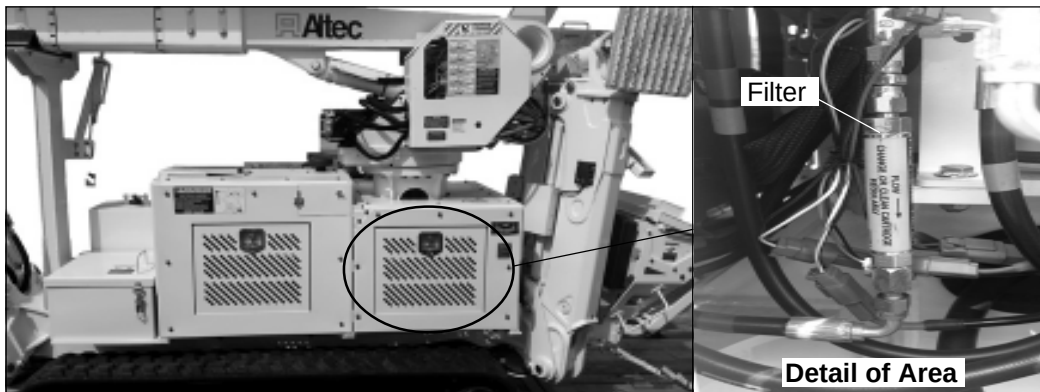

Figure 3 — Filter Location
- A filter has been added to the load sense hose to the pump to protect the pump compensator from contamination. It is located behind the curbside hydraulic access door (refer to Figure 3) to the lower left of the valve. It is an in line filter with a yellow label. If it is not in the hydraulic system at that location, order the Load Sense Filter Kit, part number 990377536.